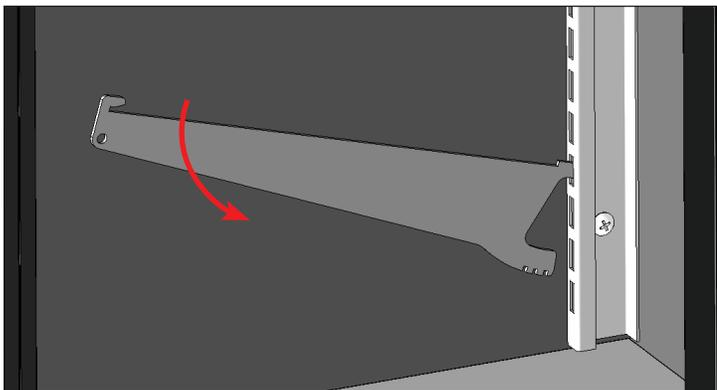

Fig. 13. Determine the appropriate adjustment slot.
3. Slide the angle adjustment tab into the shelf standard. Hook the appropriate notch into the shelf standard to support the shelf at the desired angle. See figs. 13 and 14.